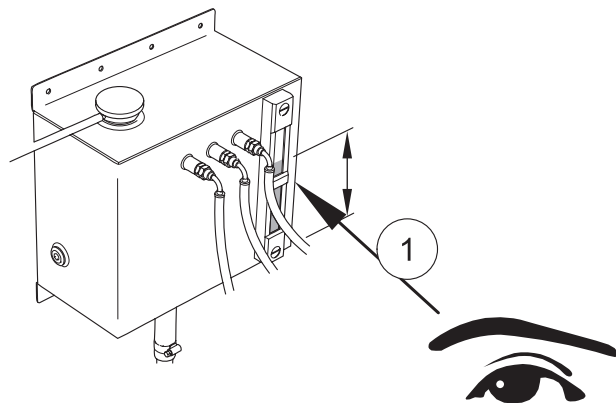

Figure 41
- 8 Check coolant level in the sight glass as in figure 41 (1).